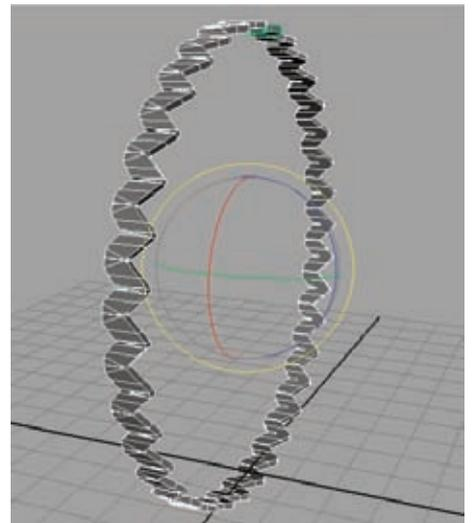

Figure 4.14
14. Duplicate the tread piece. Now, in my case, rotating the tread 10 degrees in the x-axis rotated the duplicate tread enough to butt up next to the original. Pressing Shift+D at this point will invoke the Duplicate With Transform command, creating additional duplicates that each rotate an additional 10 degrees around the wheel, meeting on the other end (Figure 4.14).